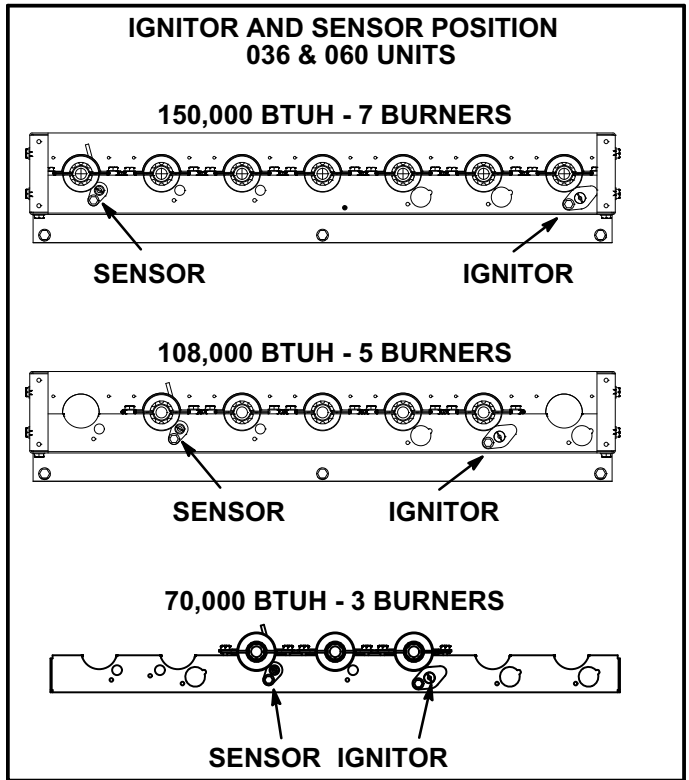
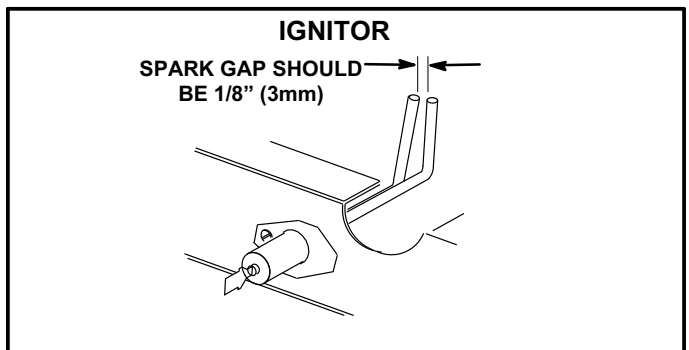
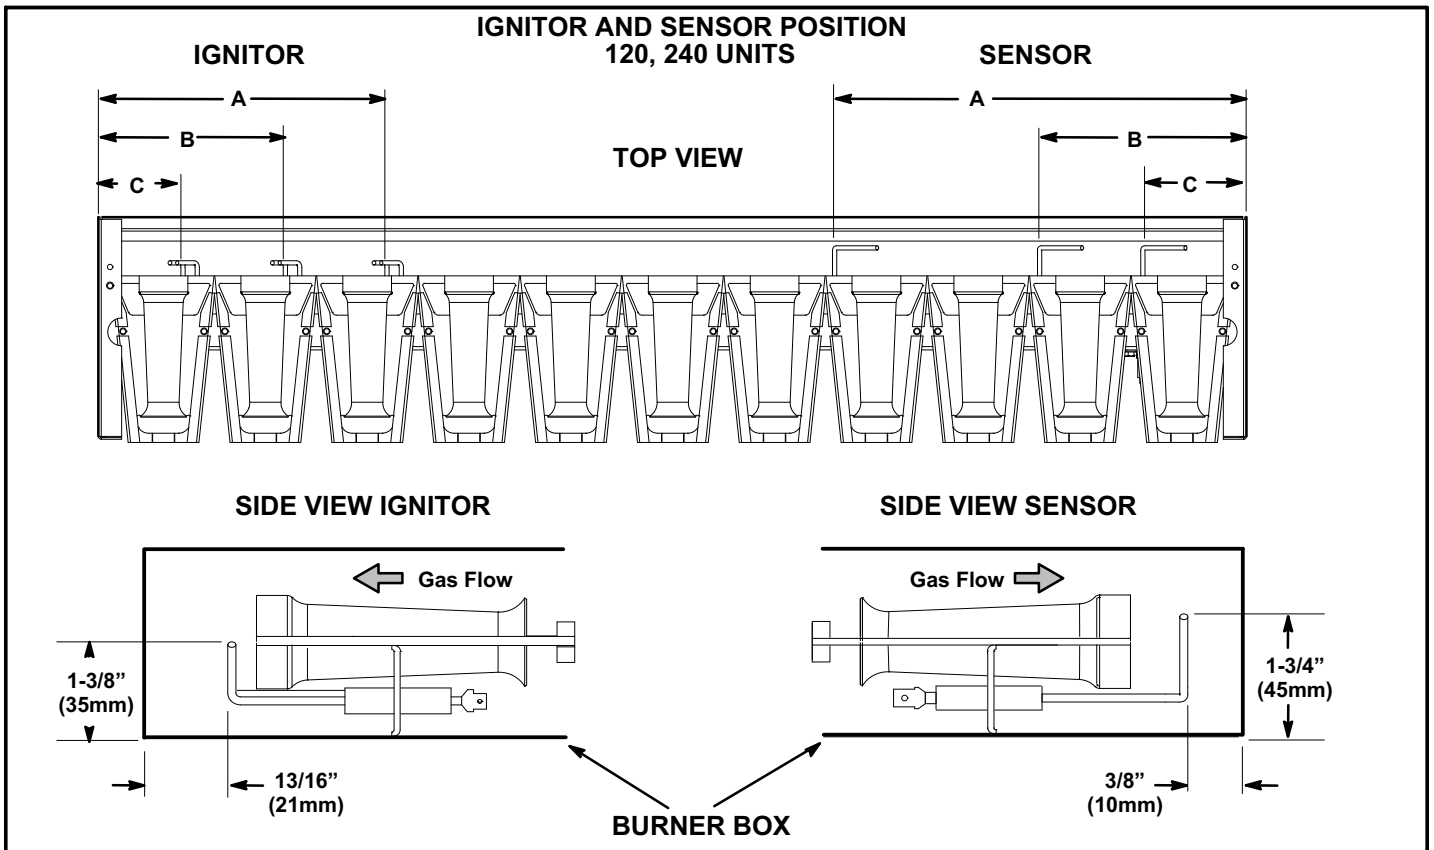

FIGURE 41
FIGURE 42
FIGURE 43
- 5- Locate the ignitor under the right burner for 036 and 060 units. See figure 41. Locate the ignitor under the left burner for 120 and 240 units. See figure 43 and table 36. Use appropriately sized twist drills or feeler gauges to check the spark gap as shown in figure 42.